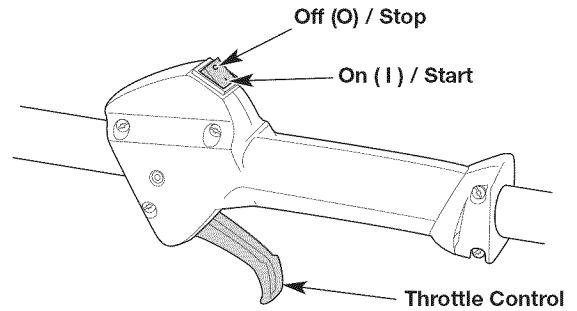
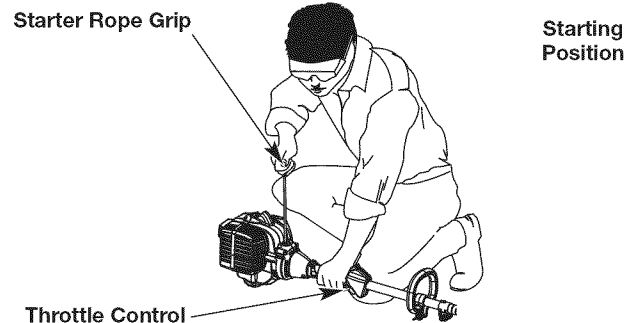

Fig. 7
Fig. 9
WARNING: Avoid accidentally starting the unit. To avoid serious injury, the operator and the unit must be in a stable position when pulling the starter rope (Fig. 9).
NOTE: There is no need to turn the unit on. The On/Off switch is in the ON (1) position at all times (Fig. 7).
5. Crouch in the starting position (Fig. 9).
6. Squeeze the throttle control (Fig. 7) and pull the starter rope with a controlled and steady motion **5 times** (Fig. 9).
2. Press and hold the On/Off switch in the OFF (O) position until the engine comes to a complete stop (Fig. 7).
NOTE: There is no need to turn the unit on. The On/Off switch is in the ON (I) position at all times (Fig. 7).
7. Squeeze and hold the throttle control (Fig. 7). Run the Speed Start™ accessory for 2 seconds.